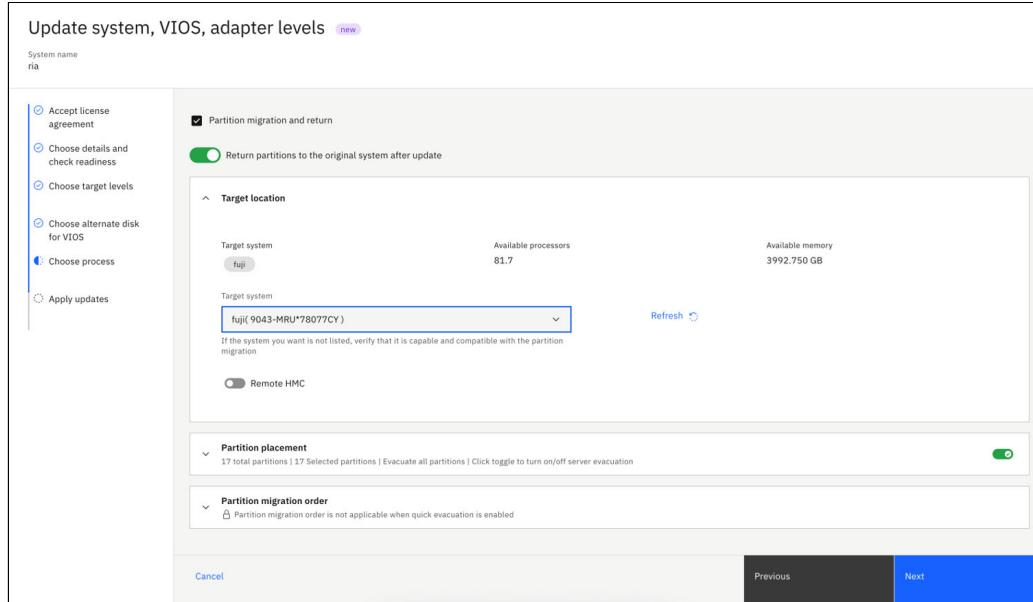

Figure 5-5 Choose Process
3. In order to preserve the system availability, for disruptive upgrades/updates, the partitions migration panel will be shown as in Figure 5-5.